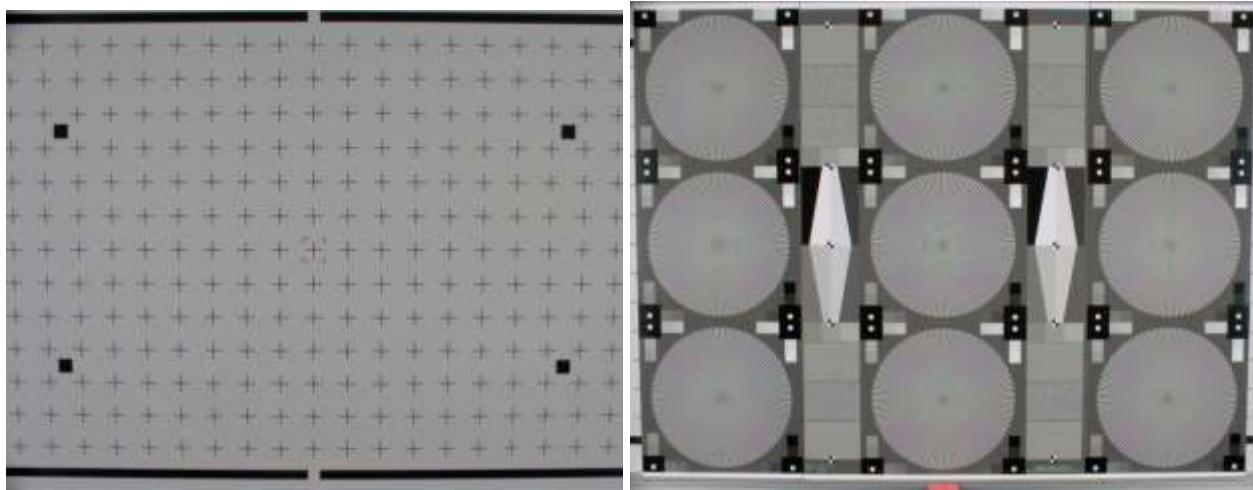

Figure 26. Examples of Images with Downward Camera Tilt
28. If the image appears wider at the bottom than at the top (Figure 26), adjusting the Tripod Vertical Angle Adjustment (top knob) so the front of the camera moves upward will “square-up” the image.